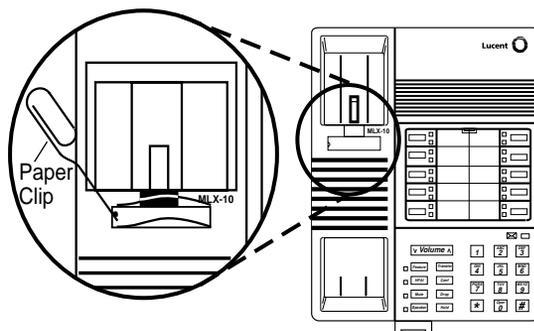

Figure 3-32. Removing the Extension Label
- a. Insert a straightened paper clip into the hole on the side of the plastic cover while holding your finger on the opposite edge; use the paper clip to push and lift the cover. See Figure 3-32.